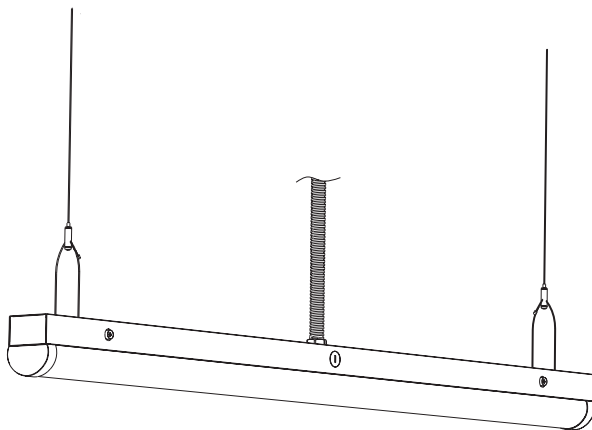

FIG. 10
④ When making electrical connections, employ UL-approved wire connectors and conduit, adhering to local codes, to connect the fixture to the main power source. (Figure 10)